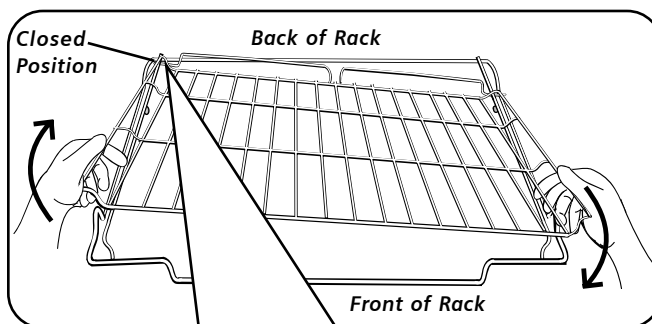
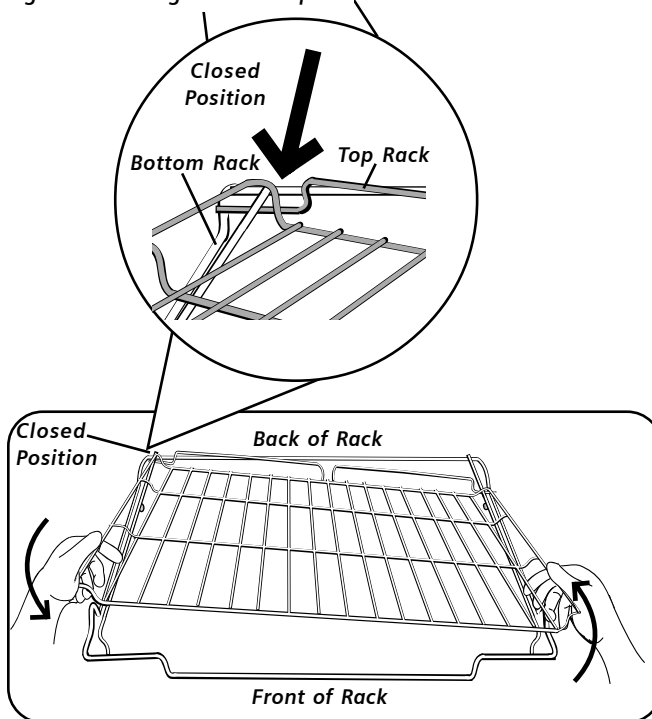

Figure 2 - Taking the Rack Apart
Figure 3 - Putting the Rack Together
**The two sections of the rack are designed to come apart for easier cleaning.** To do so, place rack on flat surface in the closed position top side up. Rotate one side of top rack towards you until it is past the stop (ball). Pull the rack up and out, rotated side first (See Figure 2). **To reassemble rack,** hold top rack diagonally across bottom rack. Insert one side of top rack to closed position. Rotate the other side toward the back of the rack until it passes the stop (ball). Push top rack the rest of the way in (See Figure 3).